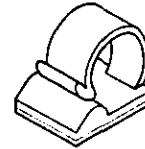

Figure 28 - Adhesive-backed Mounting Clip
2. The adhesive-backed mounting clip (see Figure 28) is attached to the thermostat sensing bulb. Remove the adhesive-backed mounting clip.